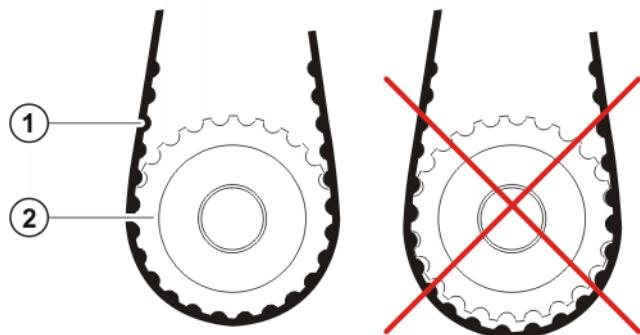

Fig. 9-7: Toothed belt and toothed belt pinion
4. Fit new toothed belts A5 and A6 in the in-line wrist. Ensure that the toothed belts mesh properly with the toothed belt pinions (**>>>** Fig. 9-7).